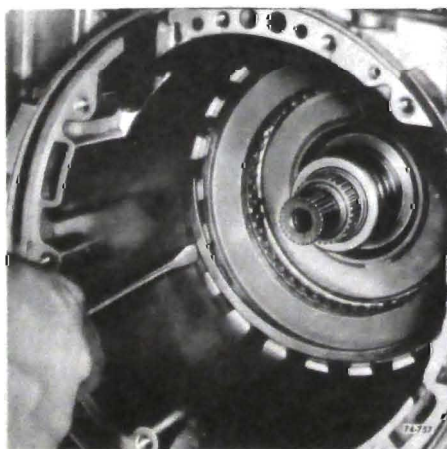

Figure 76-757
13. Install the backing plate to case snap ring. Gap in snap ring should be opposite band anchor pin. See Figure 76-757.